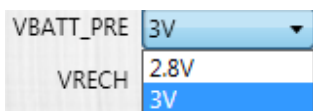

Figure 12: Setting Threshold Voltages
- The default value is 3.0V (see Figure 12).